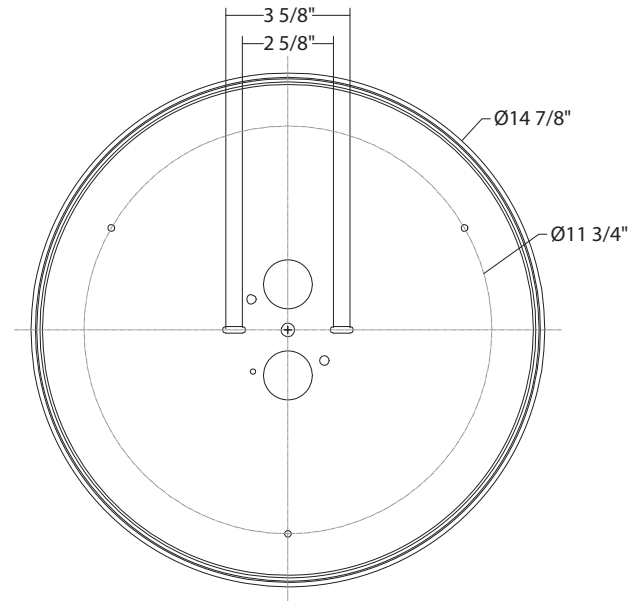

Fig.2 Wiring
CONNECTING THE WIRES (Fig. 2 / Fig. 3/ Fig.5)
9. Connect the driver's input wires to junction box wires as shown in Fig. 2, make sure that all wire connectors(A) are secured. If your outlet box has a green or bare copper ground wire, connect the fixture's ground wire to it. Otherwise, connect the fixture's ground wire directly to the back plate using the screw provided. After wires are connected, tuck them carefully inside the junction box.